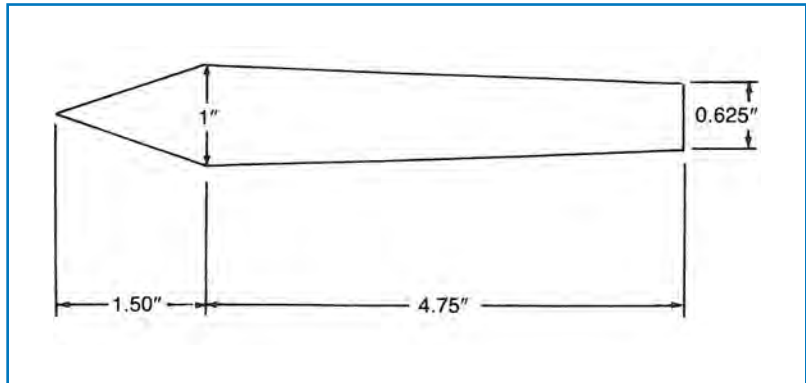

Fig. 30. Lathe center
**Fig. 30** is a drawing of a lathe center. This part has a double taper. To determine the TPI of each, treat each
tapered portion as a separate workpiece. Tapered section A in Fig. 30 reduces a diameter of 1" to 0" at the point. Therefore its TPI is: